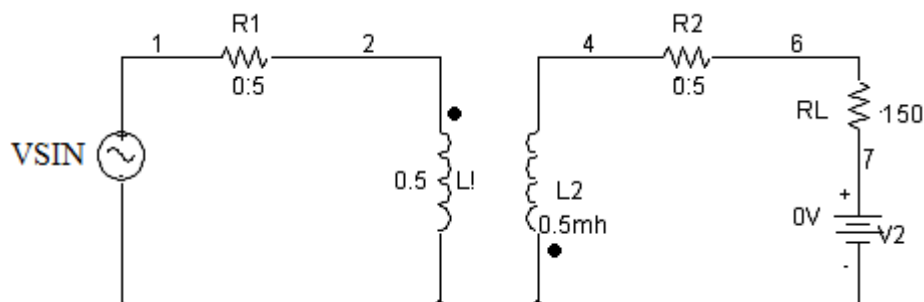

FIGURE 5.1
- A circuit with two mutually coupled inductors is shown in fig 5.1. Write down the netlist of the above circuit. If the input voltage is 120 V peak with a suitable frequency (say 60Hz, 90Hz etc). Calculate the magnitude and phase of the output current. The coefficient of coupling for the transformer is 0.999.